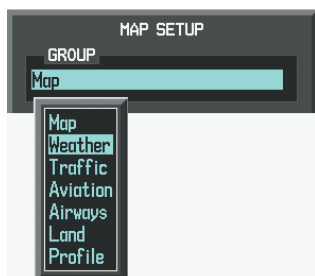

Figure 6-62 Navigation Map Page Setup Menu
- 4) Turn the small **FMS** Knob to select the 'Weather' Group and press the **ENT** Key (Figure 6-62).